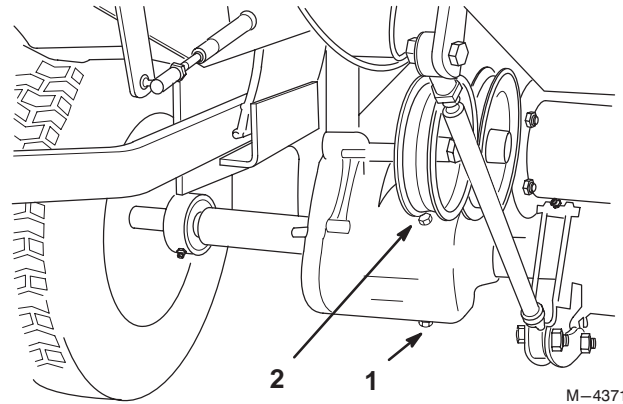

Figure 34
2. Clean the area around the drain plug and place a drain pan below the drain plug on the axle (Fig. 34).
3. Remove the drain plug and allow the oil to flow into the drain pan (Fig. 34). After the oil is drained, install the drain plug.
4. Remove the fill plug and fill to the plug level with SAE EP-90 wt. oil (approximately 14.9cl [44 oz.]) (Fig. 34).